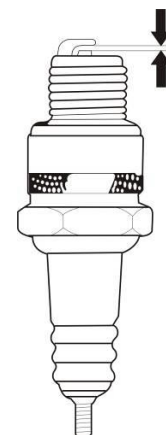

Figure 3-4: Verify Spark Plug Gap
6. See Figure 3-4. Set the gap to on the spark plug to 0.7-0.8 mm (0.027-0.031 in.).